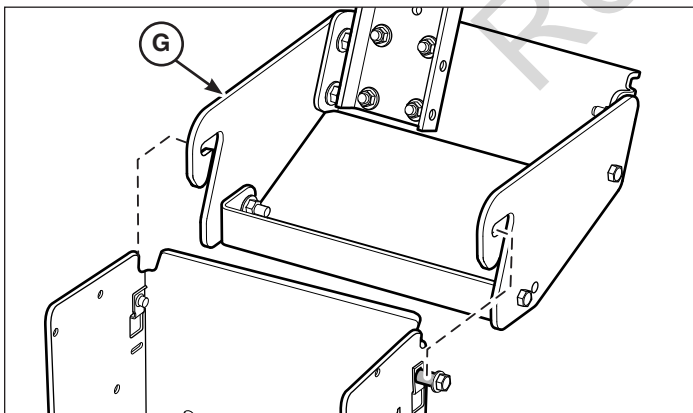

Figure 2
4. Put the rear support frame (**G**, Figure 2) onto the shoulder bolts of the rear frame support.